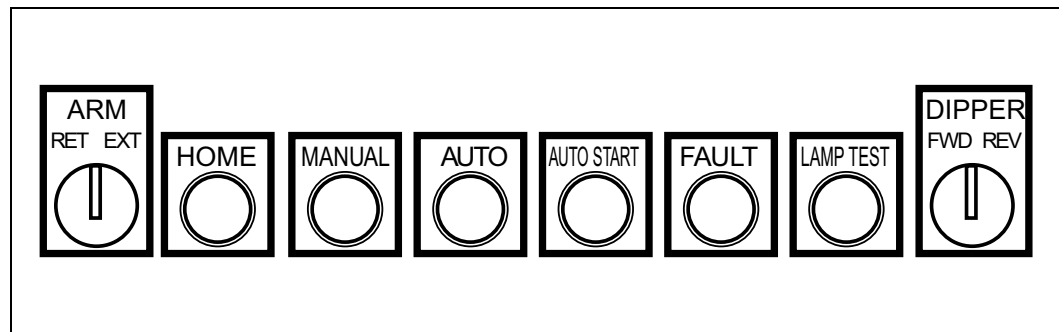

Figure 5-1: Manual Push-button
1. Power up and home the ladle by hitting the home button (Figure 5-1). This will align the arm with the pedestal and position the dipper chains for adjustment.
1. Power up and home the ladle by hitting the home button (Figure 5-1). Do not move the dipper again until this procedure is done.